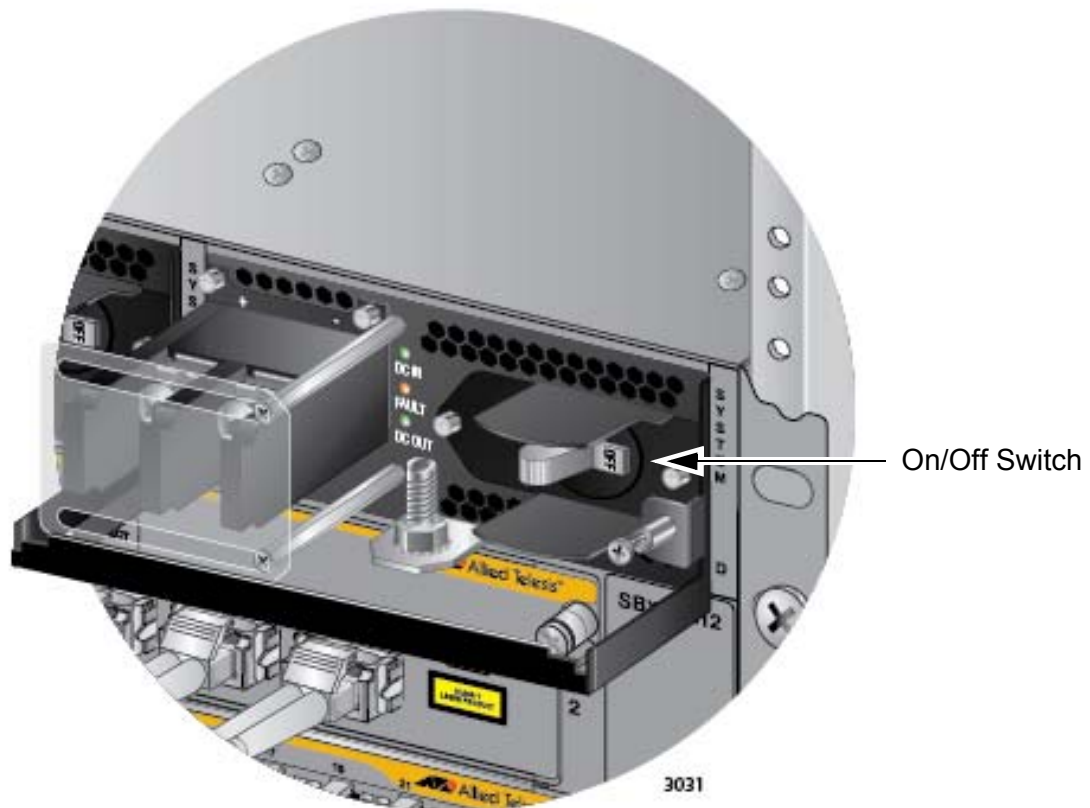

Figure 111. On/Off Switch on the AT-SBxPWRSYS1 DC Power Supply
3. Verify that the On/Off switch on the AT-SBxPWRSYS1 DC Power Supply is in the Off position. Refer to Figure 111 on page 158.
13. Turn the On/Off switch on the power supply to the On position. See Figure 111 on page 158.
2. Verify that the On/Off switch on the AT-SBxPWRSYS1 DC Power Supply is in the Off position. Refer to Figure 111 on page 158.
12. Turn the On/Off switch on the power supply to the On position. See Figure 111 on page 158.
11. Turn the On/Off switch on the power supply to the On position. See Figure 111 on page 158.